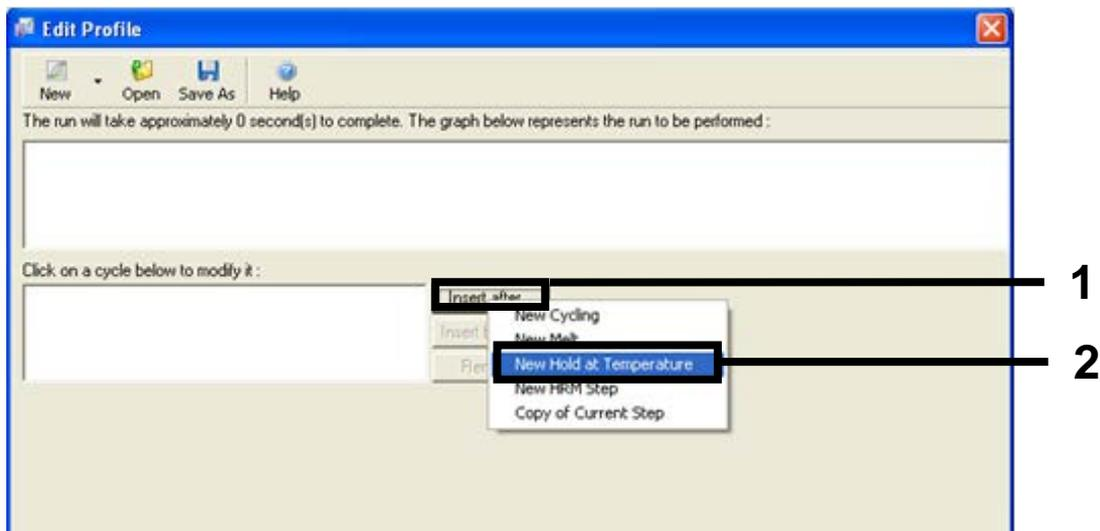

Figure 23. Inserting an initial incubation step (1 = "Insert after" button; 2 = "New Hold at Temperature").
6. Click the "Insert after" button and select "New Hold at Temperature" (Figure 23).